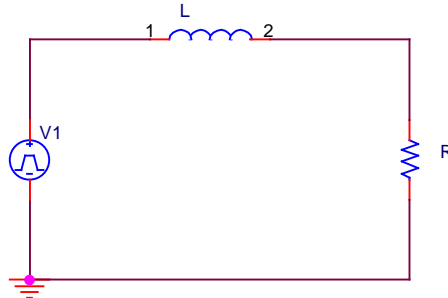

Figure 2 RL circuit with square wave input.
3. The circuit of Figure 2 is excited by a square wave voltage of 4 V, zero to peak as before, but now with a frequency of 5 kHz. Again, create the waveform so that the pulse width is half the period. Use PSpice to determine the step response (voltage across the resistor) of the circuit. Limit your transient response plot to one cycle of the source voltage. Obtain the response for the following two RL combinations (simply change R and repeat):